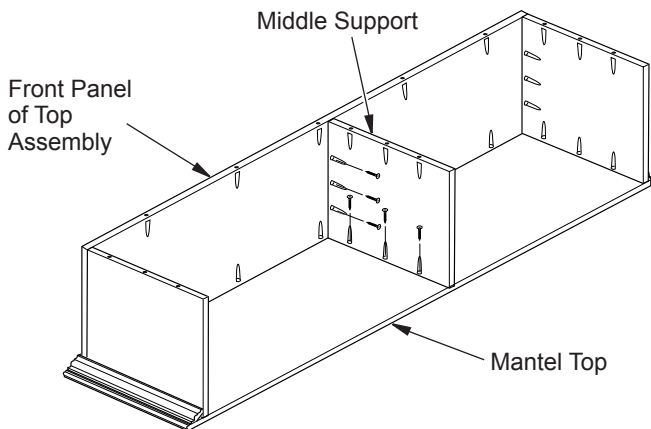

Figure 7 - Attach Middle Support to Mantel Top Assembly
3. Place unfinished middle support halfway between two sides and attach to top and front using (6) 1 1/4" screws (see Figure 7, page 3).